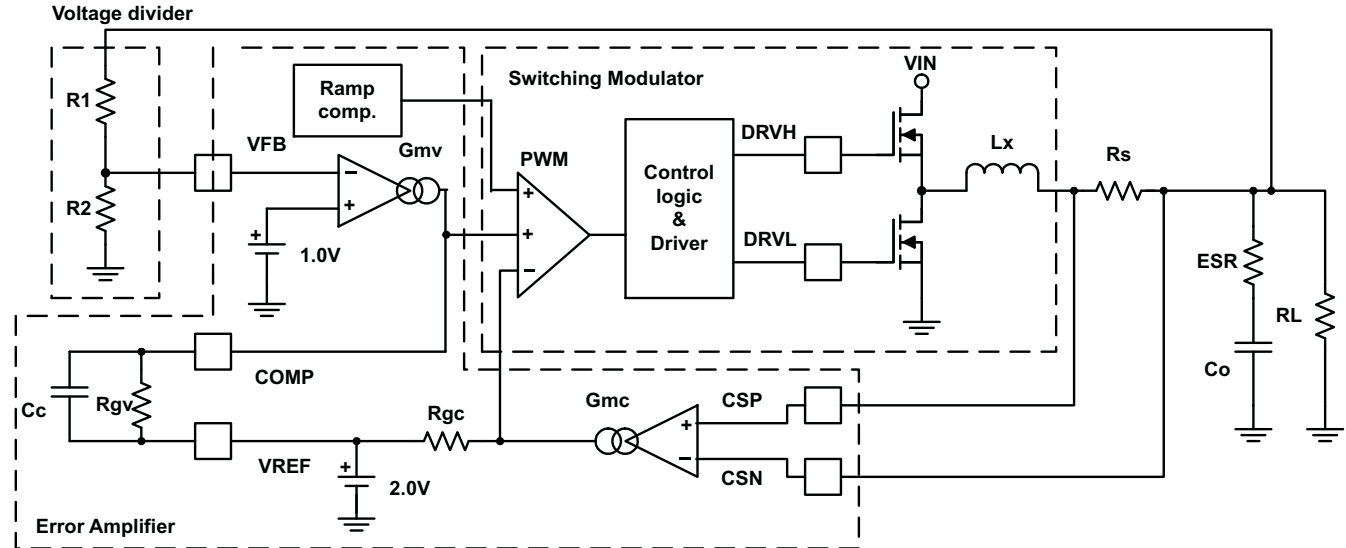
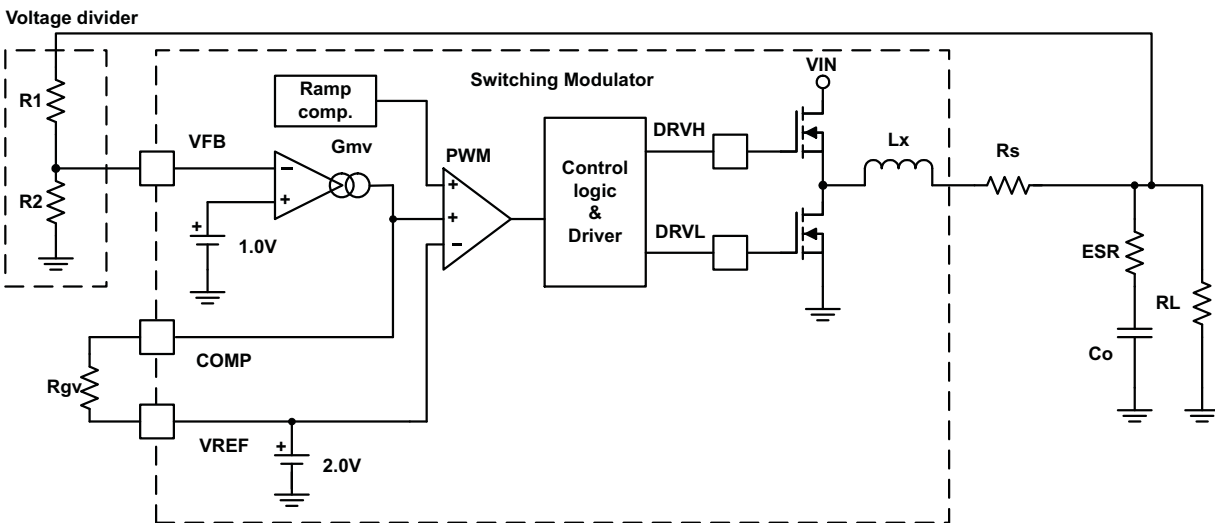

Figure 44. Simplified Current Mode Functional Blocks
Figure 45. Simplified D-CAP Mode Functional Blocks
A buck converter using the TPS51220A-Q1 consists of linear circuits and a switching modulator. Figure 44 and Figure 45 show basic scheme.
- Determine output voltage dividing resistors.** (R1 and R2: shown in Figure 44) using Equation 7.